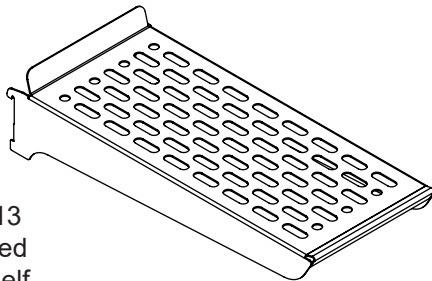

Figure 13
- (3) Half width cantilever adjustable metal shelf. see Figure 13